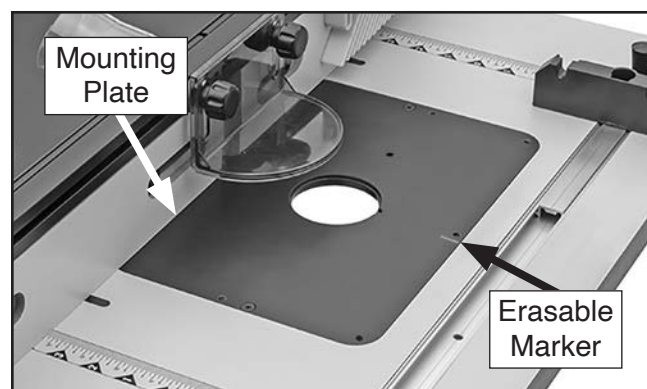

Figure 19. Mounting plate with erasable marker.
2. Mark front of mounting plate with tape or erasable marker (see **Figure 19**).